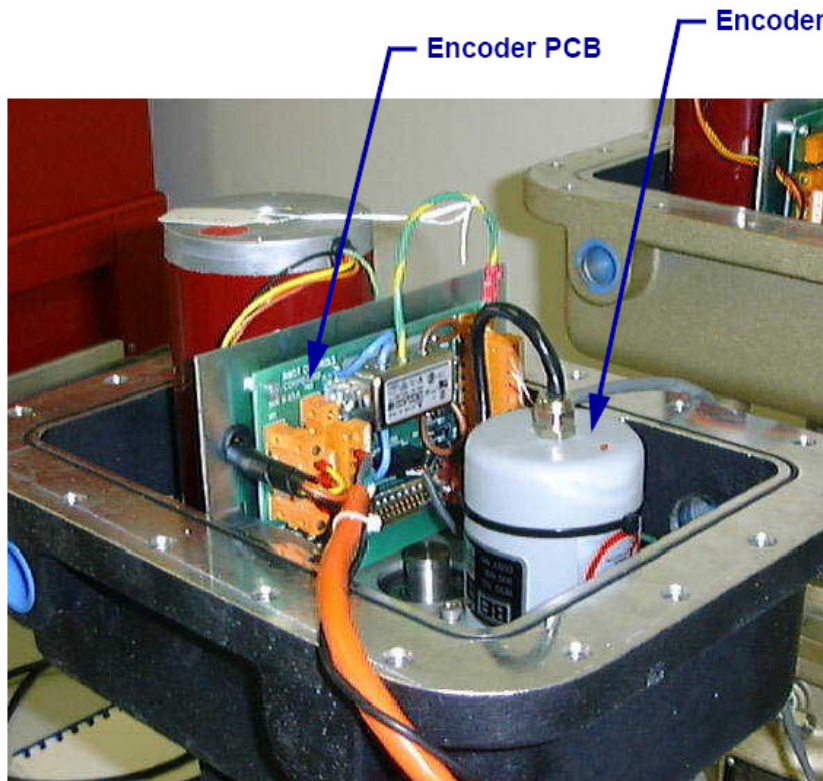

Fig 26 Location of Encoder within Actuator (Actuator Cover Removed)
The optical encoder located within the actuator housing (see Fig 26) can be replaced in the event of an encoder failure. This section outlines the general procedures for replacing the encoder.
- 3 Remove the actuator cover and locate the encoder, as shown in Fig 26 on page 70.